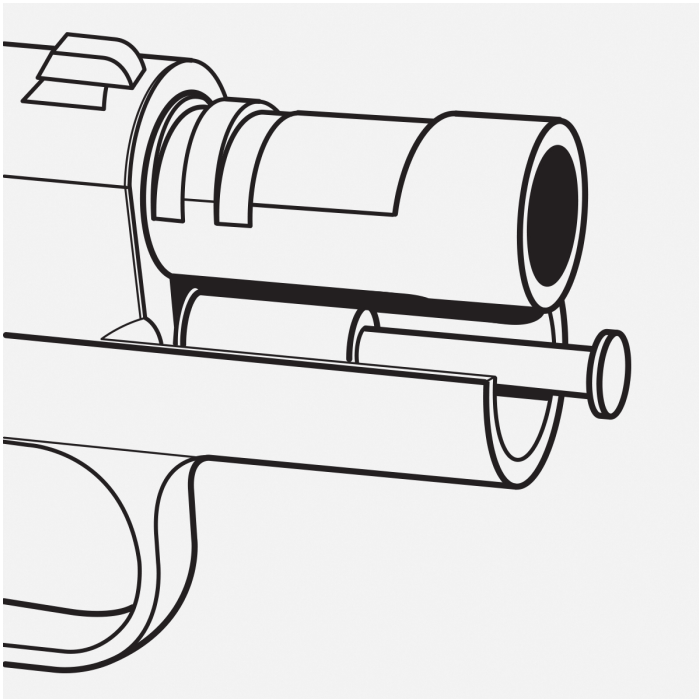

Figure 43-1
1. Lock slide to the rear. (See fig. 43-1)